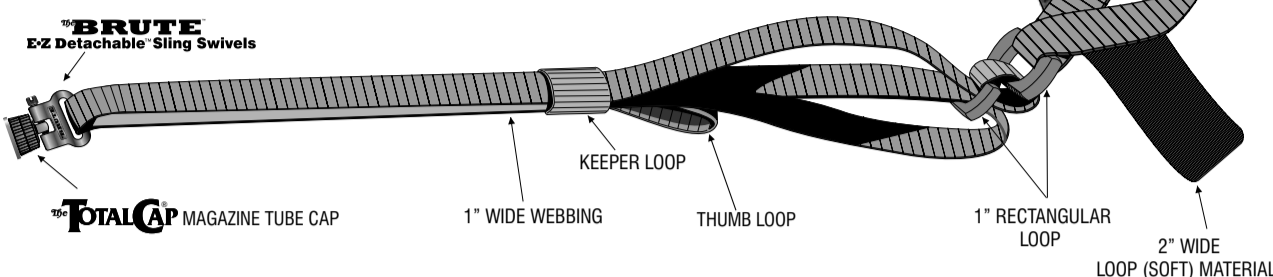

FIGURE 1
1. Lay **The TOTAL Shotgun Sling** on a flat surface and identify the different parts. Read all instructions before installing **The TOTAL Shotgun Sling.** **Figure 1.**